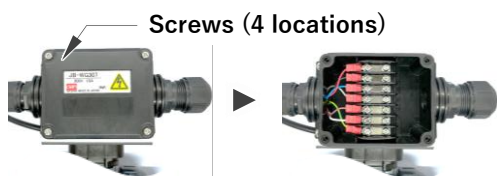

Figure 6.2-2
- 2) Loosen the screws (4 locations) of the terminal box with a Phillips screwdriver and remove the cover (**Figure 6.2-2**).